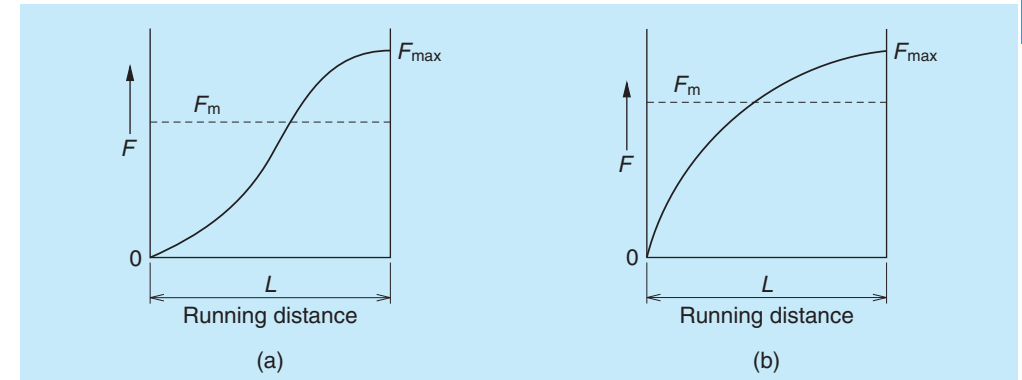

Fig. 2.5 Load that changes in a sinusoidal pattern
(3) When load changes in a sinusoidal pattern (Fig. 2.5)
(Fig. 2.5)